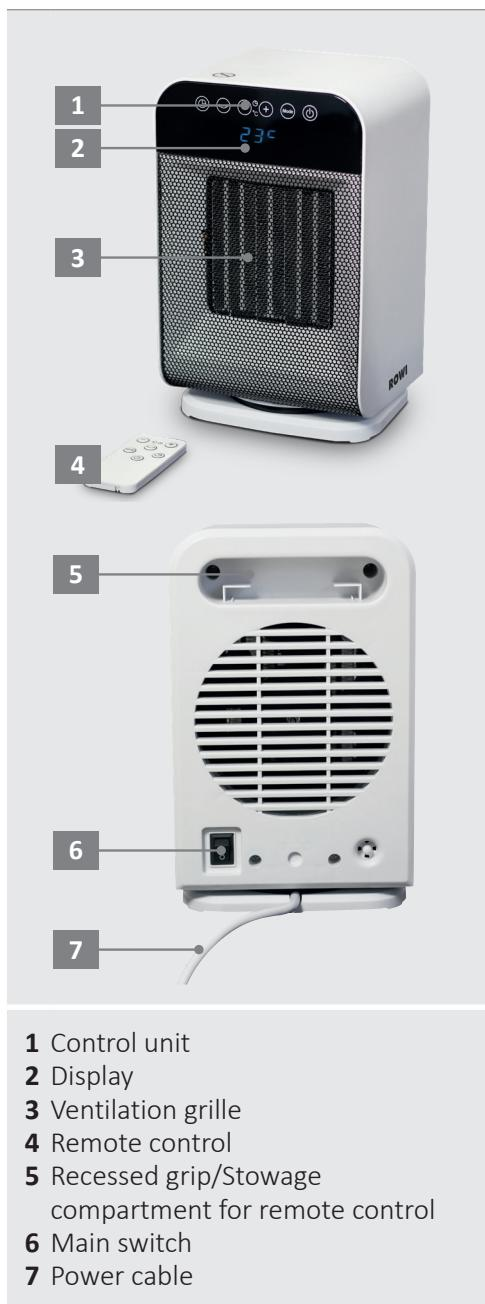

Fig. 1: Appliance overview
1. Make sure the **main switch** (see Fig. 1, No. 6) is at "0". Then connect the ceramic appliance to an earthed socket protected with an earth-leakage circuit breaker.
All the following settings can be made via the control unit (Fig. 1, Nr. 1) or via the remote control provided. Insert a battery (3 V lithium battery CR2025) in the remote control.
2. Then operate the **main switch** (Fig. 1, No. 6) on the rear of the appliance to switch it off fully.